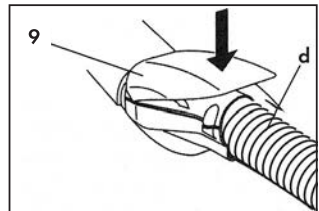

Fig. 11
- Close the accessory socket door (9) so that it rests on the body of the quick connection and check that the two elements are properly engaged. (Fig. 11)